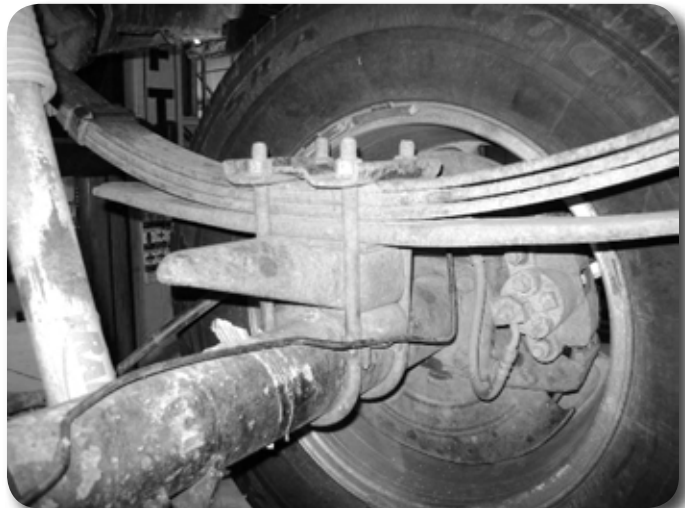

Figure 21
6. Remove the passenger's side spring U-bolts. **Figure 21**